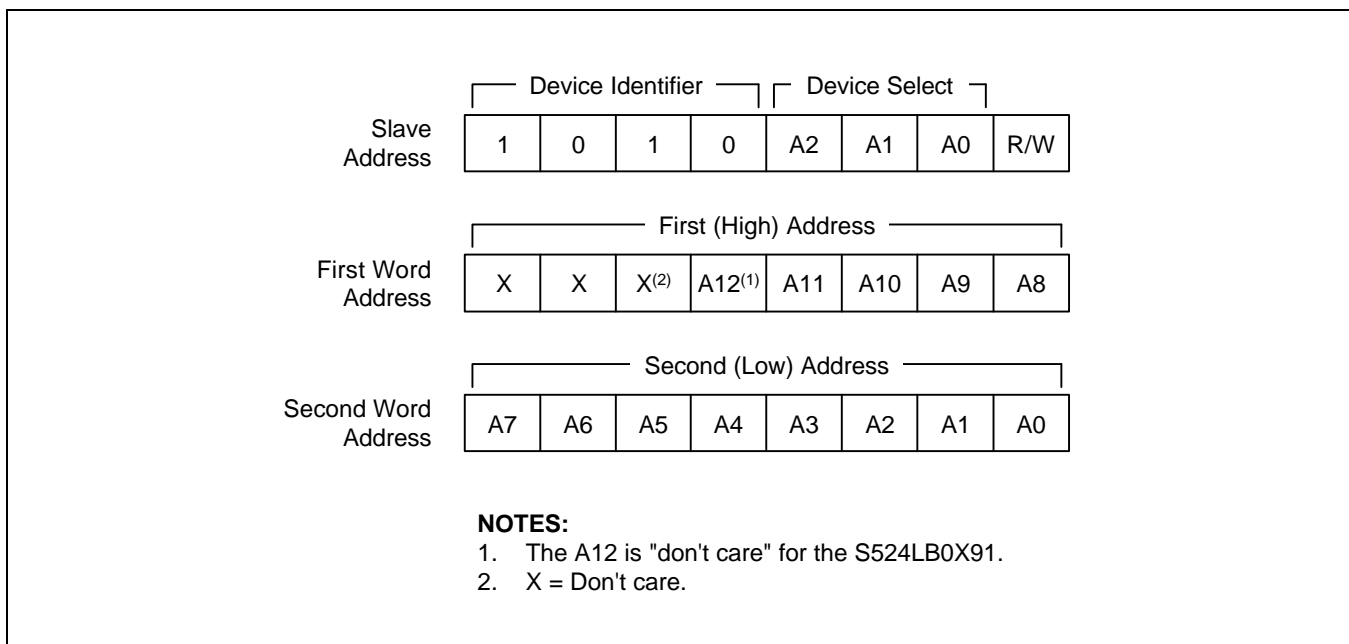

Figure 7-9. Device Address
- **Slave Address:** After the master initiates a start condition, it must output the address of the device to be accessed. The most significant four bits of the slave address are called the “device identifier.” The identifier for the S524LB0X91/B0XB1 is “1010B”. The next three bits comprise the address of a specific device. The device address is defined by the state of the A0, A1, and A2 pins. Using this addressing scheme, you can cascade up to eight S524LB0X91/B0XB1s on the bus (see Figure 7-9 below).